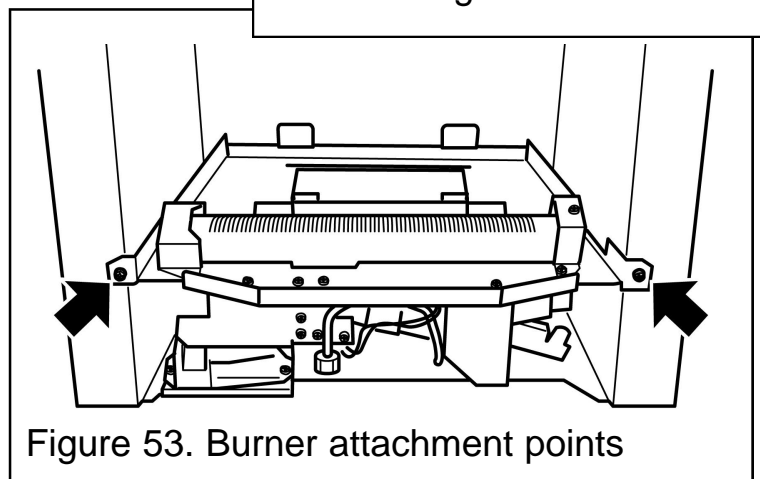

Figure 53. Burner attachment points
4. Detach the burner unit from the convection box by removing two screws (See figure 53).